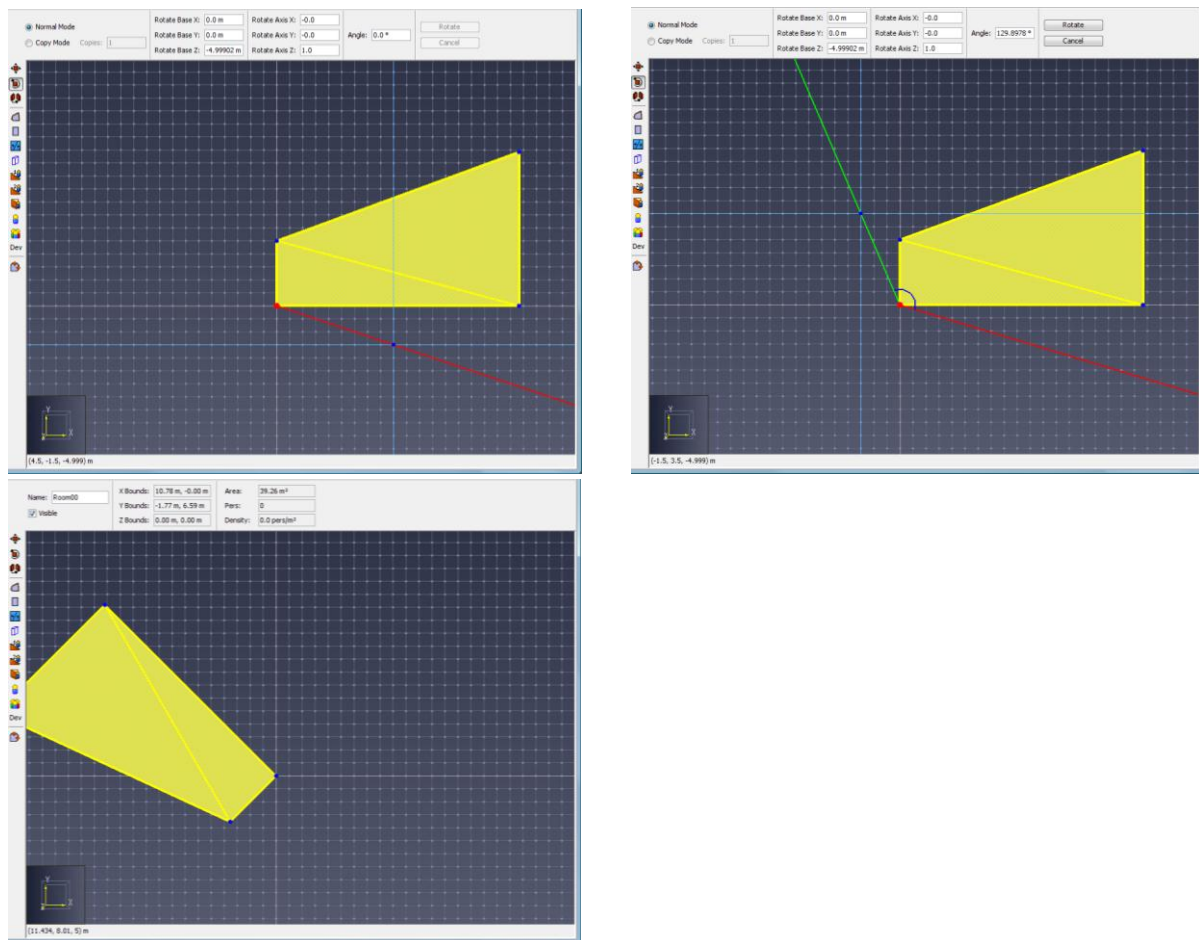

Figure 64: Rotating an object
- **Graphically:** This is performed most easily in one of the 2D views. The rotate axis is automatically set to a vector normal to the camera. Rotating requires three mouse clicks. The first specifies the base of rotation. The second defines a reference vector extending from the rotation base. The third defines a second vector extending from the rotation base. The rotation angle is the angle between these two vectors. The steps for rotating graphically are shown in Figure 64.